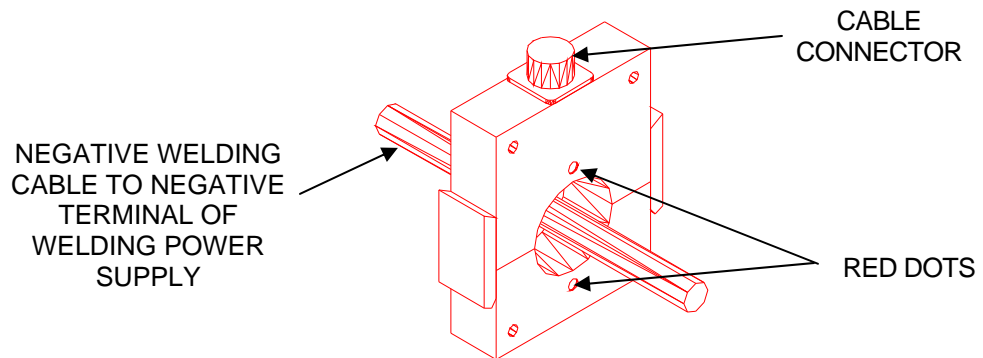

FIGURE 5 - Current Sensor Installation
- Connect the ATC **Slide Motor Cable** to the Motor mating connector on the rear of the control enclosure (Fig 5) and to the Motor mating connector on the Slide Assembly.
- Mount the **Current Sensor** such that the welding ground cable passes through the sensor (Fig 5). The two RED dots should point toward the power supply for GMAW applications and toward the work piece for GTAW and Plasma applications. Connect the **Current Sensor Cable** to the Sensor Cable Connector and to the CURRENT mating connector on the rear panel of the ATC II (Fig 5).